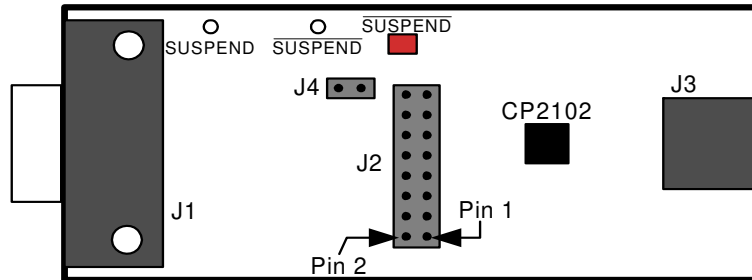

Figure 3. CP2102 Evaluation Board
The CP2102 Evaluation Kit includes an evaluation board with a CP2102 device pre-installed for evaluation and preliminary software development. Numerous input/output (I/O) connections are provided to facilitate prototyping using the evaluation board. Refer to Figure 3 for the locations of the various I/O connectors.
- Updated Figure 3 on page 4: